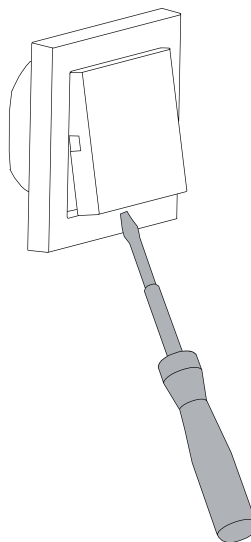

Figure 4: Remove cover
- Insert screwdriver in slot on the bottom (Figure 4) and raise cover (4) carefully.